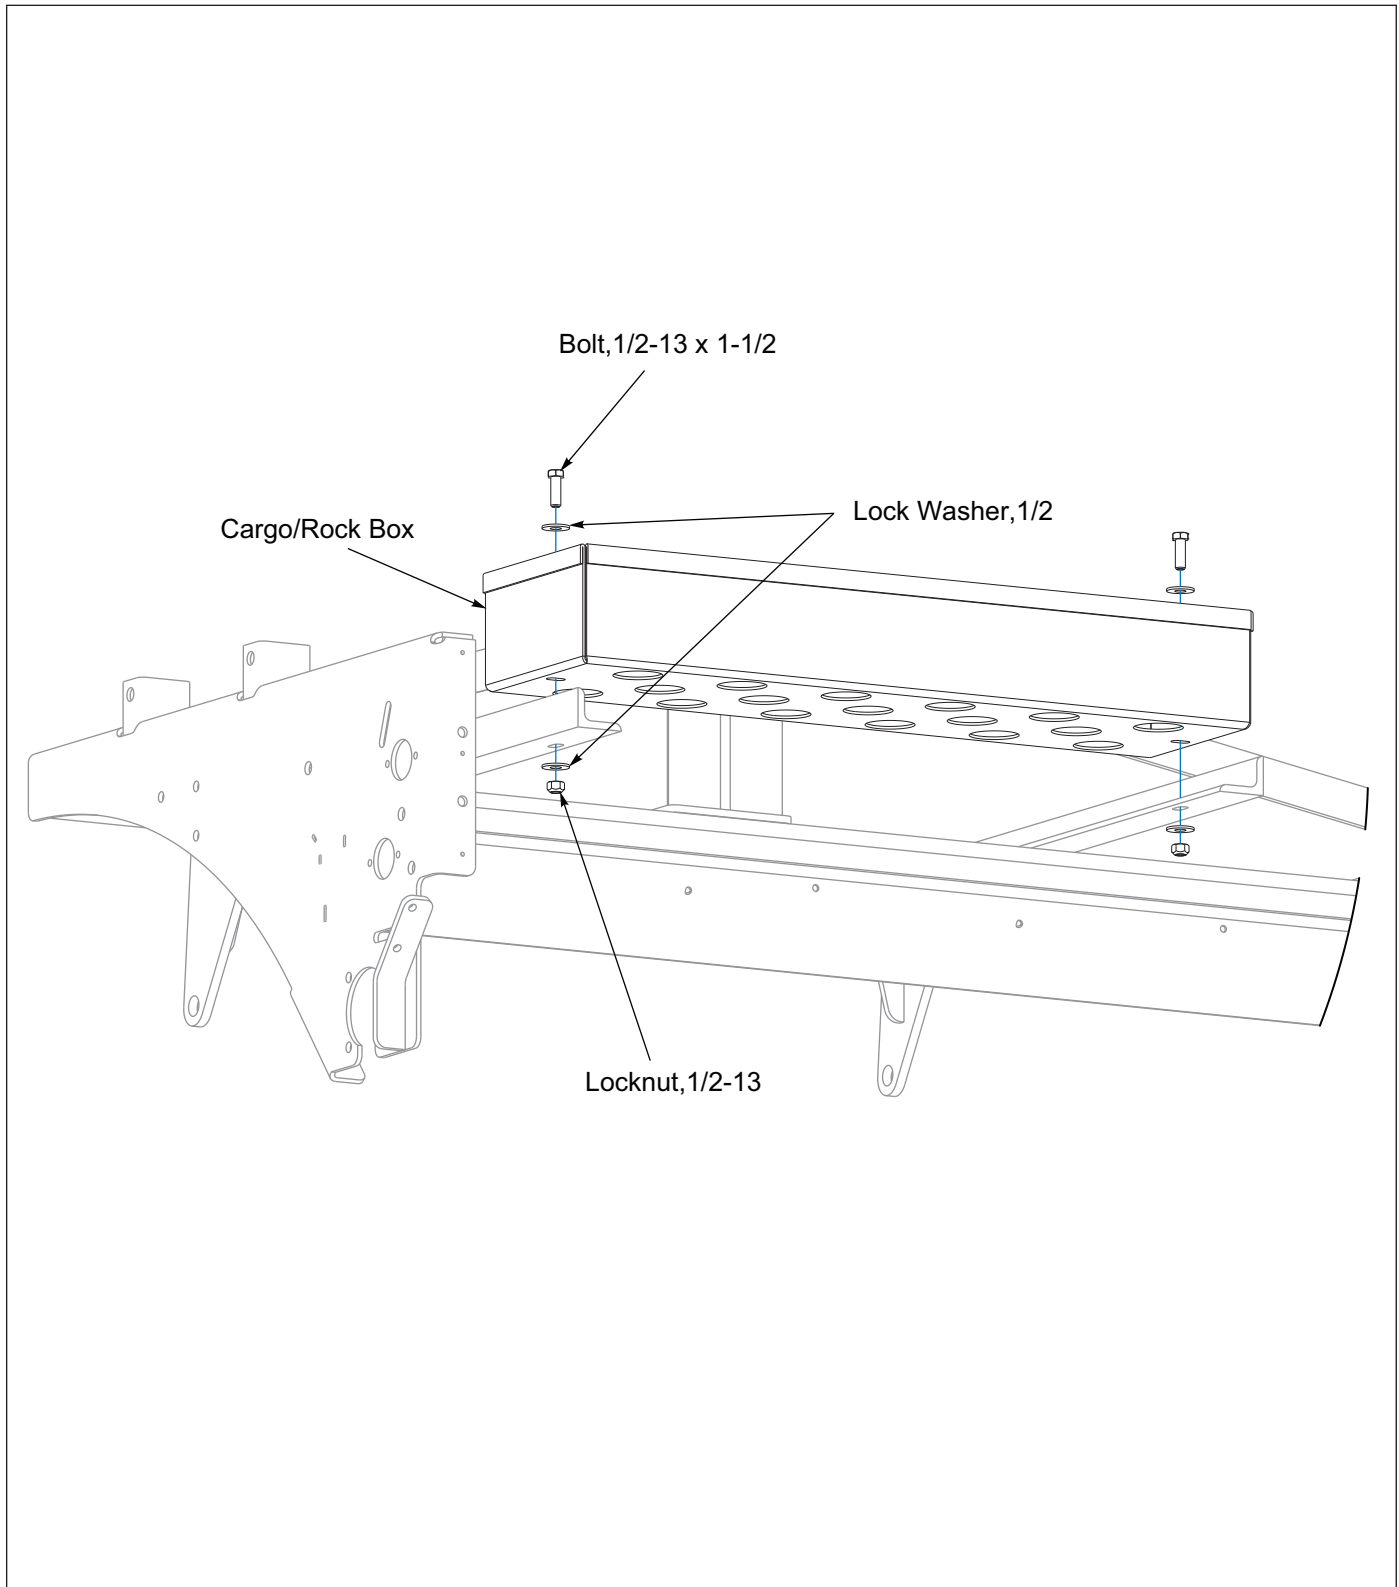

Figure 2-6: Cargo/Rock Box
1. Attach Cargo/Rock Box to Frame angles just in front of the Seed Box with 1/2-13 x 1-1/2 Bolt, Flat Washers and Locknuts. **See Figure 2-6.**